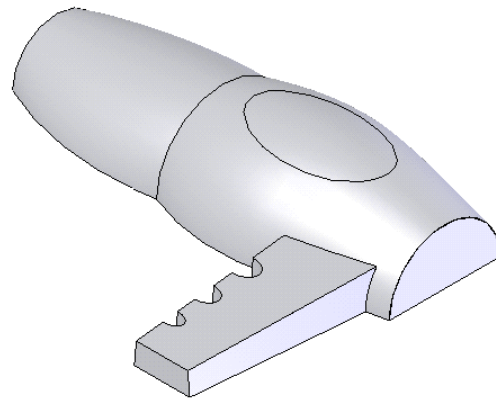

Figure 15-134 Resultant projected curve
4. Choose **Insert > Curve > Projected** from the menu bar and project the newly created sketch on the base surface. The model, after projecting the surface, is displayed in Figure 15-134.